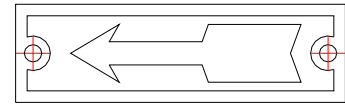

Fig.24
15.2. Arrow : Recommend Flow Direct. Fig.24